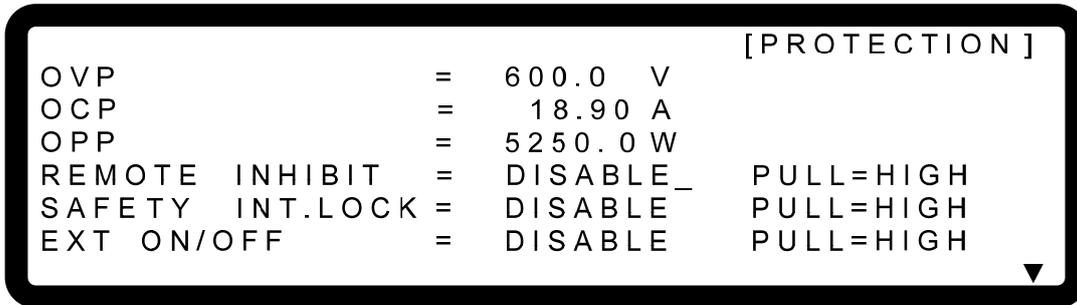

Figure 3-70
1. Use “” & “” keys to move the cursor to the column to be set as Figure 3-70 shows.